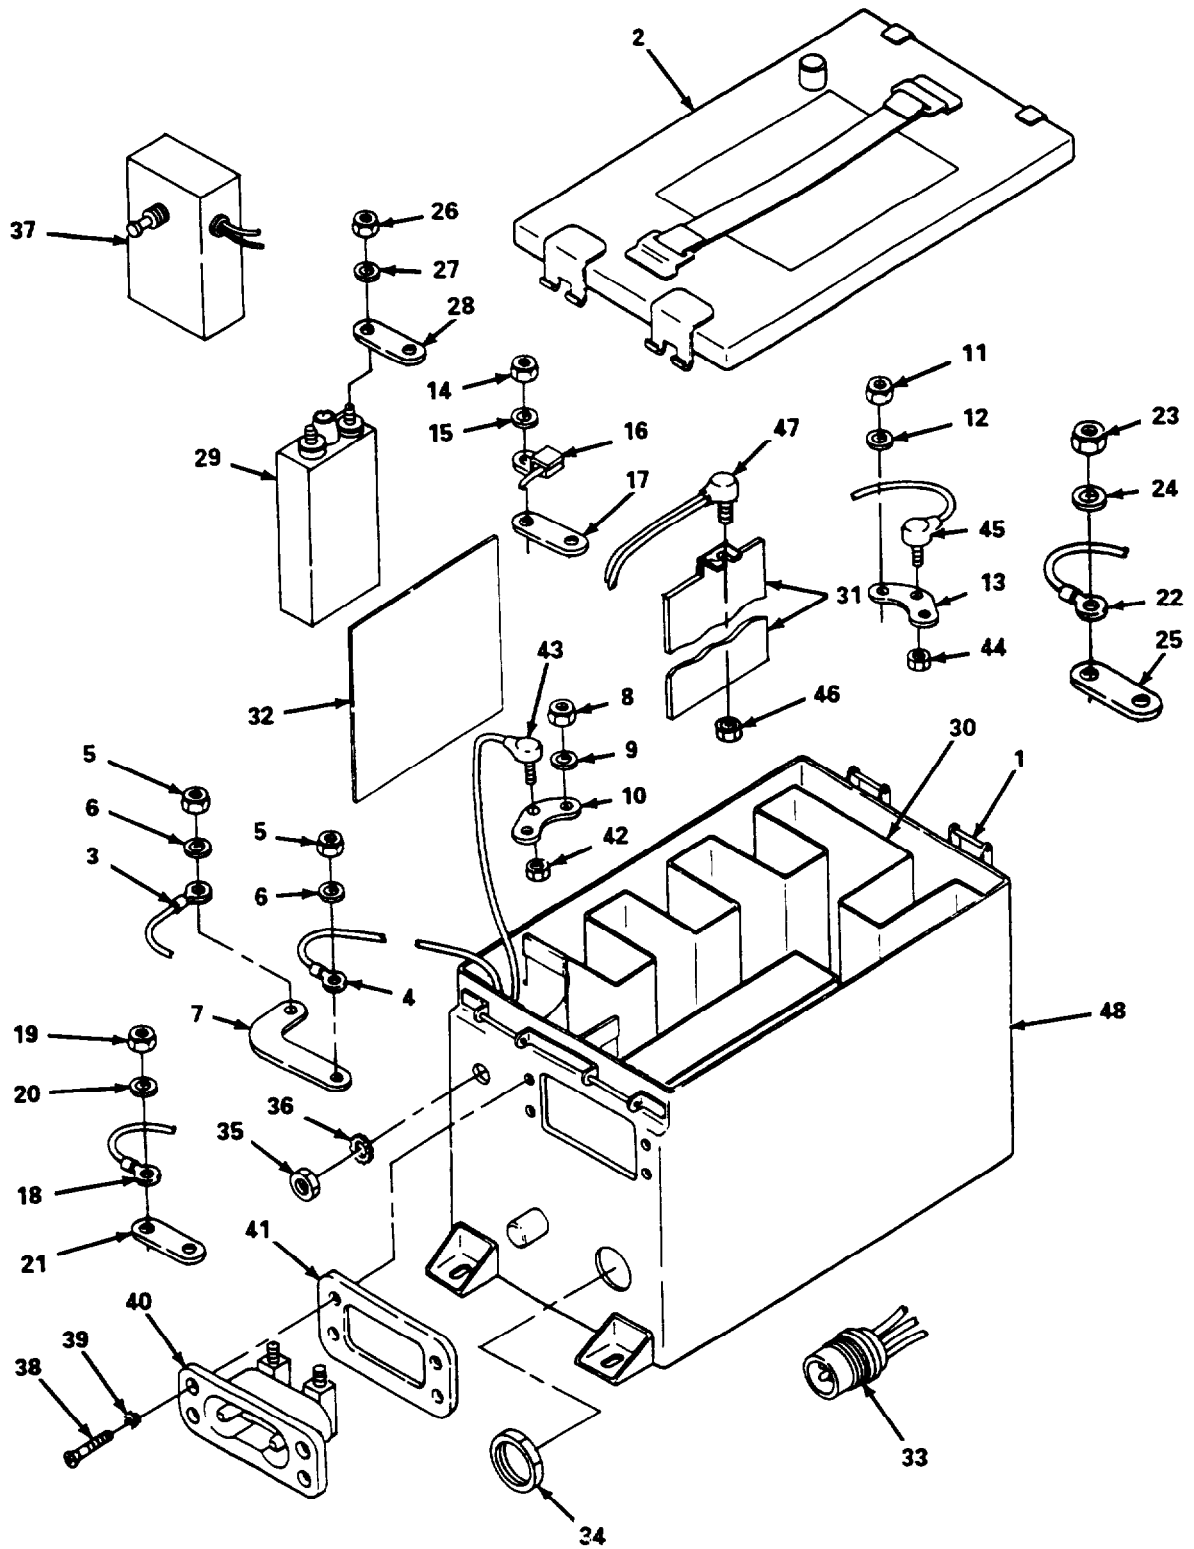

Figure 3-17. BB-558/A Wiring Harness Replacement.
(1) Wiring Harness Replacement (figure 3-17).
- (a) Unsnap two latches (1) and open and remove cover (2).